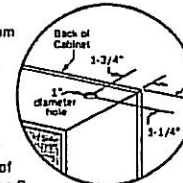

Figure 2.
- C. Drill a 1" diameter hole on top of the cabinet as indicated in Figure 2.